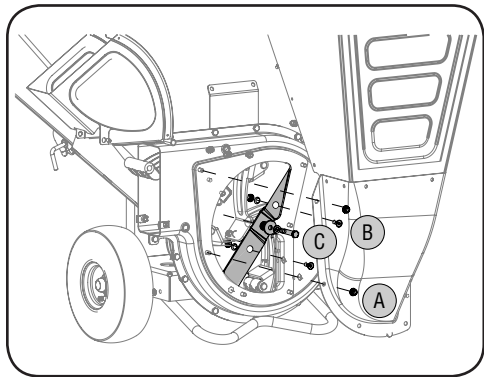

Figure 4-4
4. Remove six flange nuts which secure hopper inlet guide to impeller housing. See A in Figure 4-4.
7. Remove the two internal hex screws, hex lock nuts, and lock washers which secure the shredder blade to the impeller. See B in Figure 4-4.
8. Remove the hex bolt, lock washer, and flat washer to completely free shredder blade. See C in Figure 4-4.